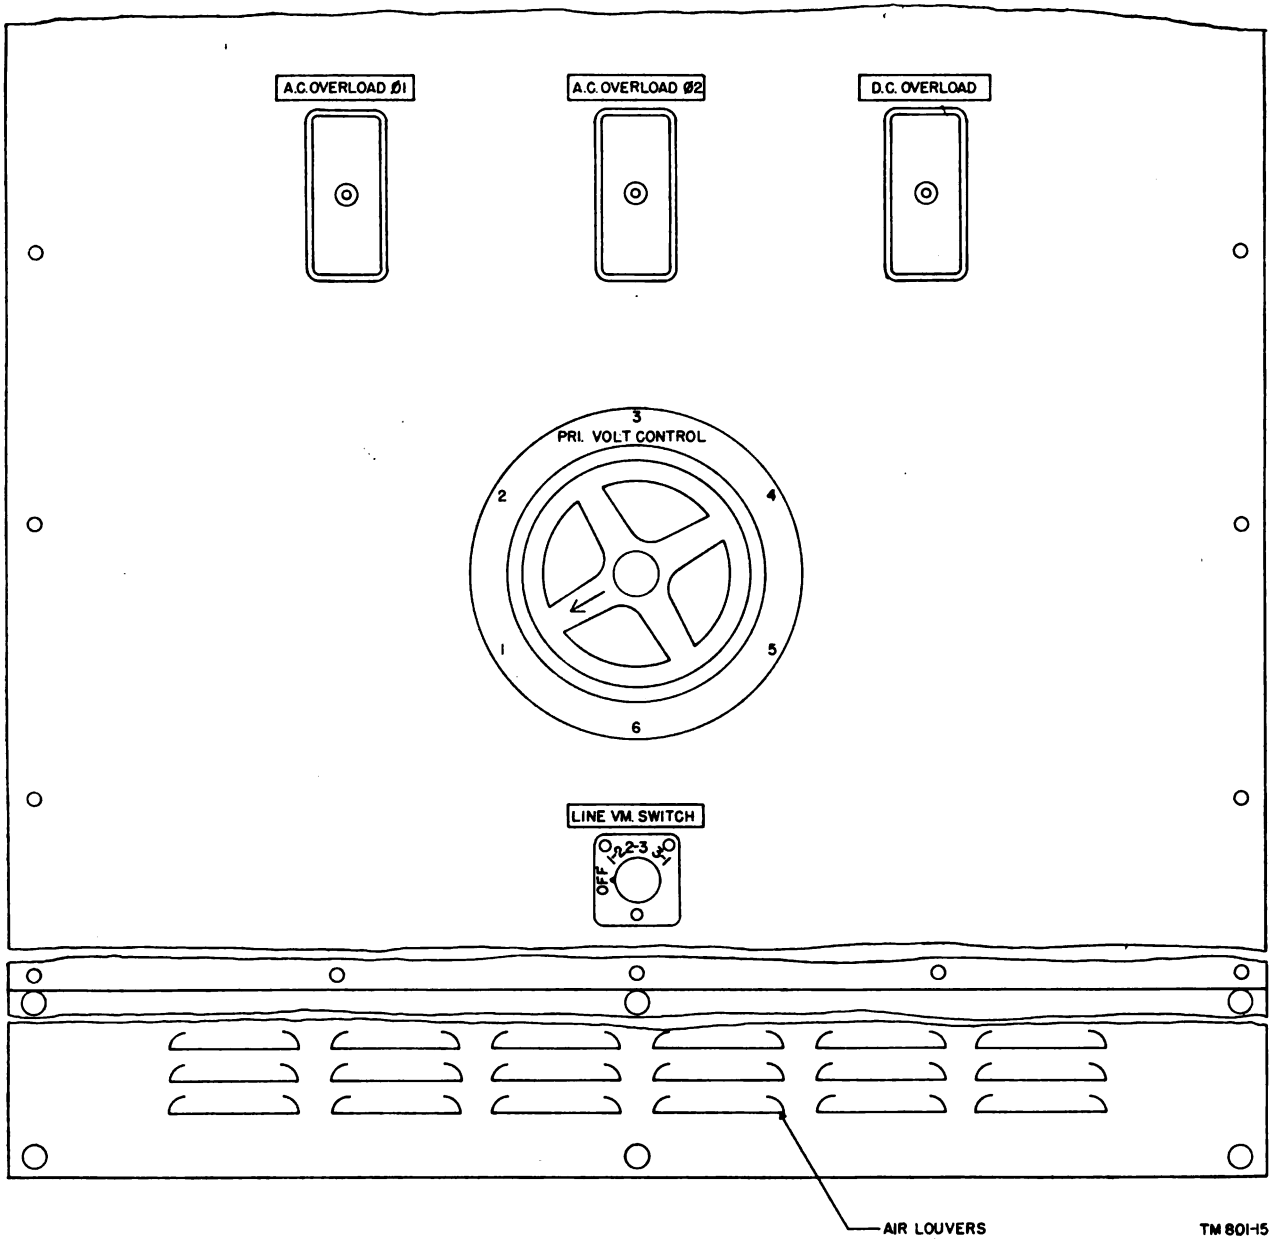

Figure 43. Rectifier RA-22-(*), front panel, lower section.
A.C. OVERLOAD ϕ 1 relay (RL-1) (fig. 43).	Breaks the a-c input circuit when phase 1 is overloaded.
A.C. OVERLOAD ϕ 2 relay (RL-2) (fig. 43).	Breaks the a-c input circuit when phase 2 is overloaded.
D.C. OVERLOAD relay (RL-3) (fig. 43).	Breaks the a-c input circuit when the d-c output circuit is overloaded.
LINE VM. SWITCH (SW-3) (fig. 43).	Switches voltmeter M-2 across any one of the three phases.
PRIMARY VOLT CONTROL handwheel (SW-5) (fig. 43).	Operates detent on primary of T-1 for changing the output voltage of rectifier RA-22-(*). As a result of ganging arrangement, operates SW-4.